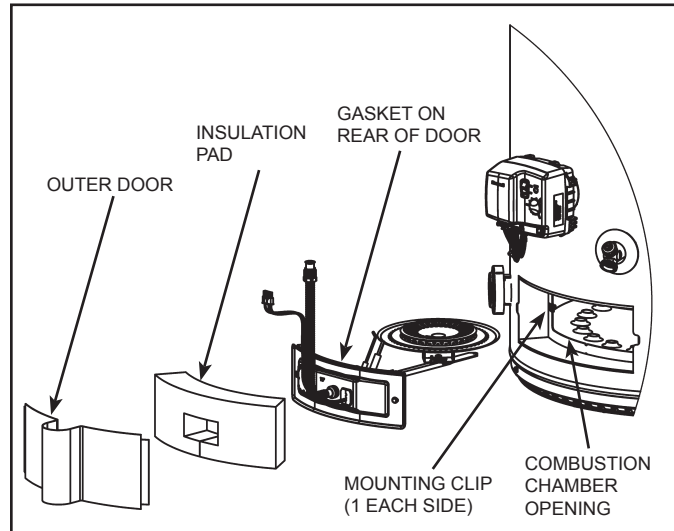
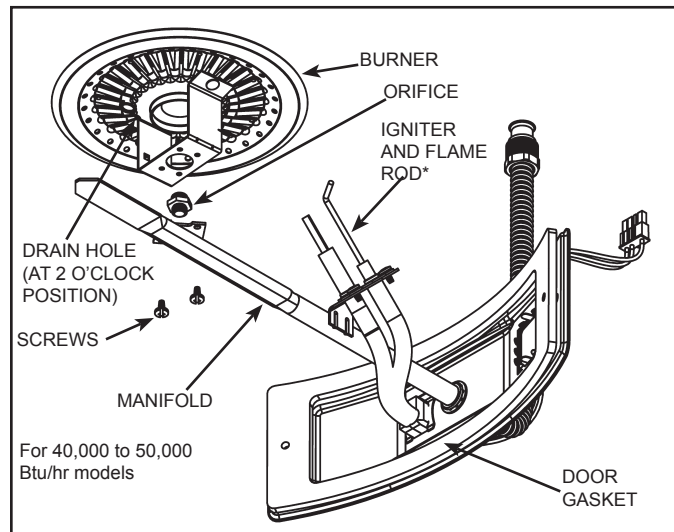
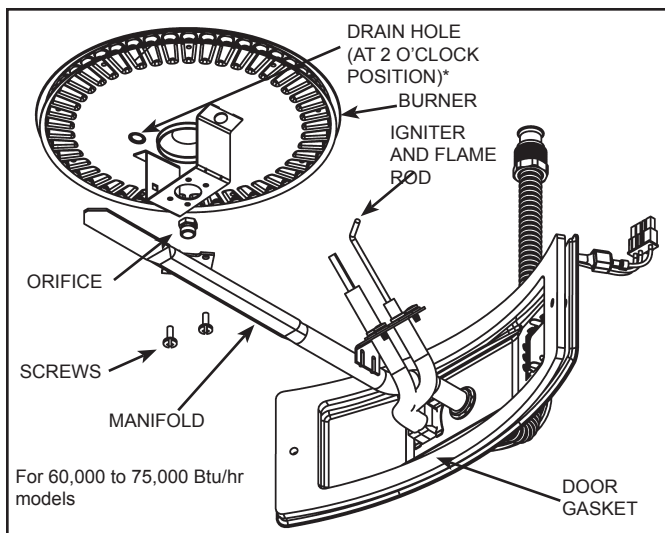

Figure 17. Burner Chamber Compartment Doors
Figure 18. Burner/Igniter Assemblies for 40,000 to 50,000 Btu Models
Figure 19. Burner and Igniter Assemblies for 60,000 to 75,000 Btu Models
9. Remove inner door/manifold/burner assembly by grasping the manifold, rotating it to the left to clear the igniter and flame sensor and pulling back. Care should be taken when inner door and burner assembly passes through jacket opening that it does not damage any of the electrical wiring. See **Figure 17** (page 14).
1. Burner may be hot. Wait until burner has cooled off. After noting the position of the condensation drain hole on the top of the burner, turn the inner door/manifold/burner assembly upside down. Using a Phillips head screwdriver, remove and retain the 2 screws attaching the burner to the manifold pipe. See **Figure 18** (page 8) and **Figure 19** (page 15).
Care **MUST** be taken to ensure the burner is installed correctly on the inner door/manifold assembly. Position the new burner upside down with the orientation of the burner's condensation drain as shown in illustration. See **Figure 18** (page 8) and **Figure 19** (page 15).
1. Align the screw holes on the inner door/manifold assembly. Using the two screws removed in step 1 of Removing Burner, install the new burner to the inner door/ manifold assembly (rotate the assembly to visually check the top portion of the burner assembly and confirm the orientation of the condensation drain hole. See **Figure 18** (page 8) and the note that follows it.
1. Burner may be hot. Wait until burner has cooled off. After noting the position of the condensation drain hole on the top of the burner, turn the inner door/manifold/burner assembly upside-down. Using a Phillips head screwdriver, remove and retain the 2 screws attaching the burner to the manifold pipe. See **Figure 18** (page 8) and **Figure 19** (page 15).
Note: The burner orifices have different threads dependent upon the gas type. Orifices for natural gas have right-hand threads, orifices for LP have left-hand threads. See **Figure 18** (page 8) and **Figure 19** (page 15).
Note: The burner orifices have different threads dependent upon the gas type. right-handed threads for natural gas (turn clockwise to install) and left-handed threads for propane gas (turn counter-clockwise to install). See **Figure 18** (page 8) and **Figure 19** (page 15).
3. Align the screw holes on the inner door/manifold assembly. Using the two screws removed in step 1 above, installed the new burner to the inner door/ manifold assembly (rotate the assembly to visually check the top portion of the burner assembly and confirm the orientation of the condensation drain hole as shown in the illustration. See **Figure 18** (page 8) and **Figure 19** (page 15).
1. Locate the gasket that is on the rear of the burner door assembly. See **Figure 17** (page 14), **Figure 18** (page 8), and **Figure 19** (page 15).
3. Using the 3/4" scraper, clean around the combustion chamber opening to ensure no old gasket material is stuck on the combustion chamber. See **Figure 17** (page 14). Use the flashlight to clearly illuminate this area. Take care not to damage the mounting clips located on each side of the opening.